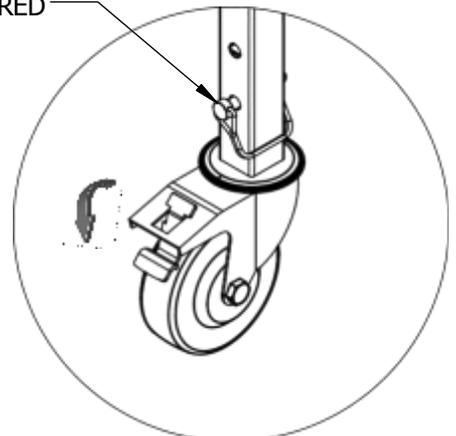

Fig. 2
- 4 Install locking-pins to secure the casters. (Fig. 2).
NOTE: Spring-pin is locked when stopper reaches the square tube. (Fig. 2)
- 14 Make sure that the securing-pins attached to the braces are turned outward. (Fig. 2)